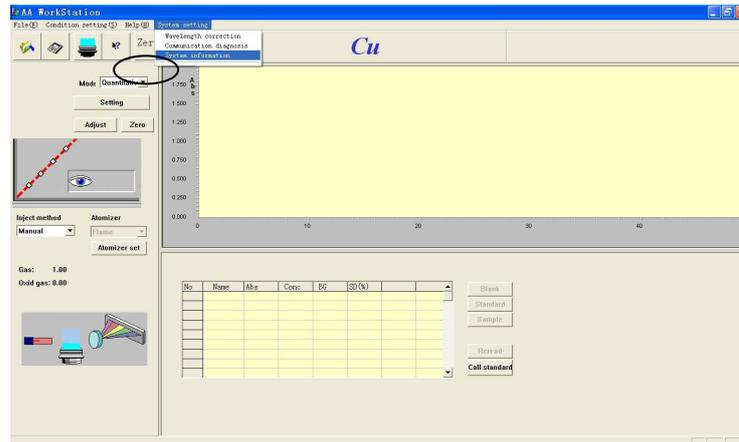

Figure 8-1
1. Select "System information" in the "System settings" menu, as shown in Figure 8-1.